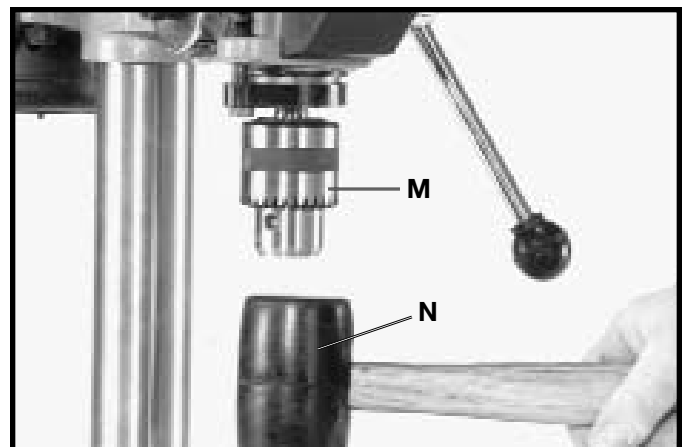

Fig. 9
7. **IMPORTANT:** Open the chuck jaws as wide as possible by turning the chuck sleeve (M) Fig. 9.
8. Holding chuck on taper of spindle, tap with a mallet (N) or a block of wood and hammer to set chuck, as shown in Fig. 9. **IMPORTANT:** To avoid damage to the chuck, **NEVER** drive the chuck onto the spindle with a metal hammer.